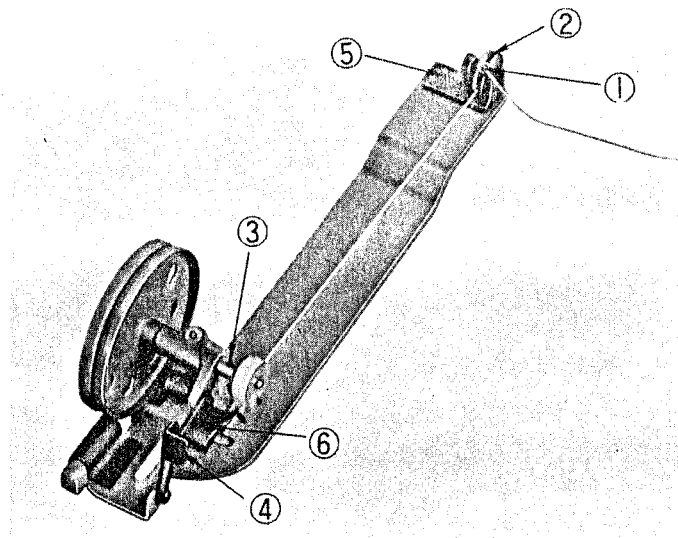

Fig. 5
WINDING BOBBINS (Refer to Fig. 5)
Push the bobbin on bobbin winder spindle (3, Fig. 5) as far as it will go. Pass thread from tension bracket (1), then between and around the back of the tension discs (2) bring thread forward. Then wind the end of the thread around the bobbin several times in the direction shown in the Figure 5. Push the bobbin winder lever (4) downward until wheel contacts the drive belt and start the machine.